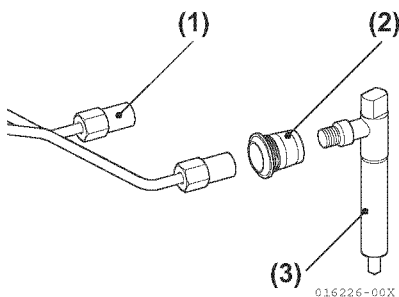

Figure 5-38
- Loosen the bolts on the fuel injection nozzle retainers and extract the fuel injection nozzles (Figure 5-38).